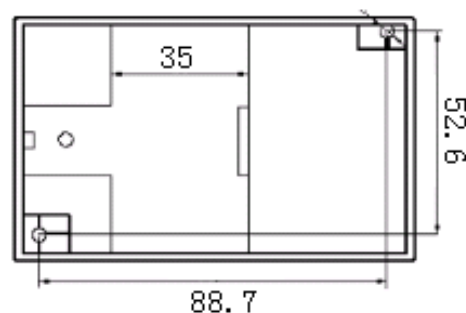

Figure 3, SK outline installation dimensions
DIN35 rail mounting or screw mounting, the installation size as shown in Figure 3 (in mm).
- ①3mm diameter hole in the fixed plate according to the screw hole position shown in Fig. 3;
- ②Use the screw  $\Phi 3$  to insert into hole and secure it.